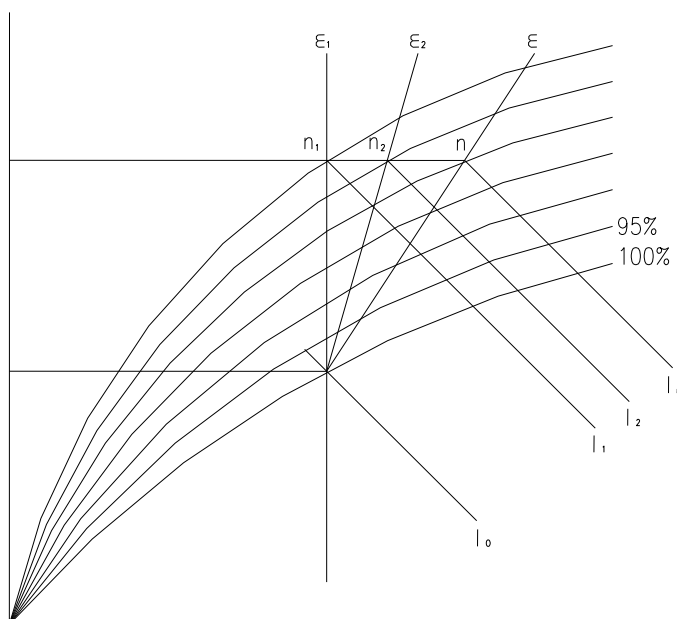

Figure 1 Air treatment temperature process of a fan coil
- e. When a fan coil runs at standard condition, the final point of air treatment depends on the enthalpy difference of air treatment and the cooling capacity is related to the humidity load of the room, in that the greater the heat-humidity ratio, the smaller the cooling capacity is, as shown in Figure 1. So, the air treatment enthalpy difference of the fan coil can be determined by heat-humidity ratio curve, final point parameters of air treatment and air parameters, and then the cooling capacity of the fan coil can be calculated based on the air treatment enthalpy of the room at different heat-humidity ratio...